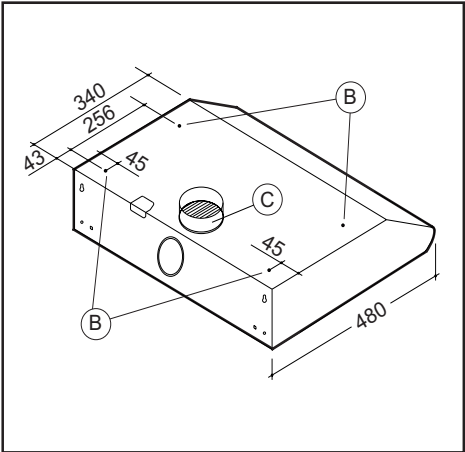

Fig.2
• MONTAGE DE LA HOTTE DANS LA PARTIE INFÉRIEURE D'UNE ARMOIRE - (Fig.2)